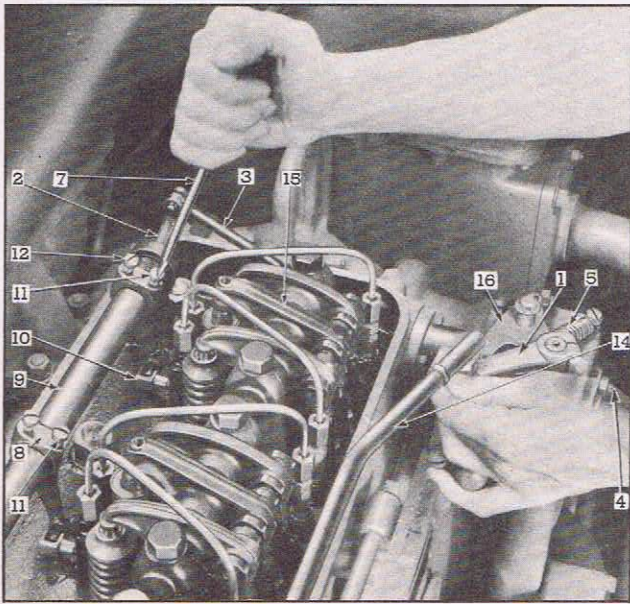

FIG 4—POSITIONING RACK OF NO. 1 INJECTOR ON ENGINE EQUIPPED WITH LIMITING SPEED TYPE GOVERNOR.
1. Back off several turns (at least four) on both adjusting screws (11) and (12) in rack control lever (8) at the injector being adjusted. (See Figs. 4 and 5.)
2. Hold the other injector racks all the way IN (full fuel position) by means of the governor control lever (1) as shown in Fig. 4 and adjust rack control lever (8) to the full IN position by slowly turning down inner adjusting screw (11) until injector rack can just be felt striking "bottom" and just before the racks of the other injectors start moving out. Guard against moving the other injector racks OUT when positioning this one rack. Tighten outer screw (12) and then check as outlined in item 3 below.
3. While still holding the racks all the way IN by means of the governor control lever (1), check rack coupling (10) of injector in question for looseness with the finger tips and compare with other injectors.
1. After setting the governor spring gap, refer to Fig. 4 and set the injector rack on No. 1 cylinder by backing out governor buffer screw (4) until it projects about $\frac{5}{8}$ " from the governor housing.
2. Back off several turns on both adjusting screws (11) and (12) of all rack control levers (8). Outer screw (12) on No. 1 lever should be backed off several additional turns. Be sure all levers are free to rotate on shaft.
- (a) Turn down inner adjusting screw (11) on No. 1 injector rack control lever (8) until screw bottoms.
- b. Loosen both inner and outer adjusting screws (11 and 12, Fig. 4) on rack control lever of injector in question.
7. If the injector cannot be "cleared" by the procedure outlined in item 6, it must then be removed and replaced with one known to be in good condition. Refer to the instructions below for removing and installing injectors.
5. Swing valve rocker assembly back into position and tighten bracket bolts (4).
6. Replace fuel lines (1).
7. Set operating lever on top of governor to the "STOP" position, thus throwing injector control tube and injector racks into the "NO FUEL" position. (Injector racks way out.) Adjust screws (11) and (12), Fig. 4, in rack control lever (8) of the injector, or injectors, just installed to bring the inner shoulder of the rack coupling (10) approximately $\frac{3}{32}$ " distance from the injector body. This distance should be the same on all injectors, the one, or ones, just installed as well as the ones that have not been removed.